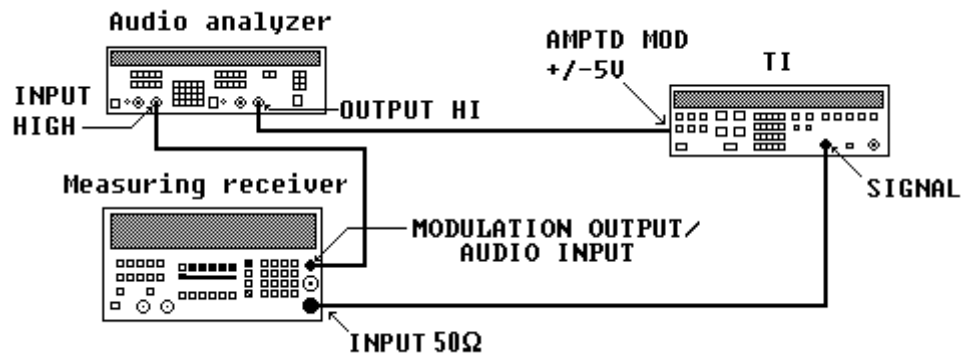

Figure 2. AM distortion - equipment setup.
- (1) Press keys and enter values using **DATA** keys as listed in (a) through (i) below:
- (2) Connect equipment as shown in figure 2.